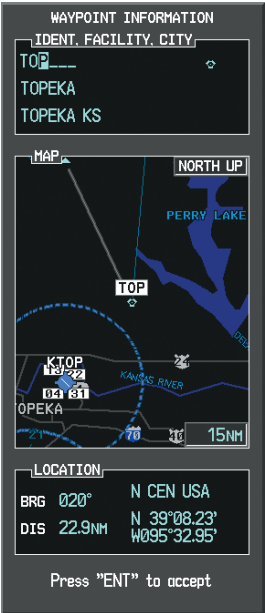

Figure 5-104 Entering V4 Entry Point
c) Turn the small **FMS** Knob to display the Waypoint Information Window. Enter the desired entry point for V4, Topeka VOR (TOP), as shown in Figure 5-104.